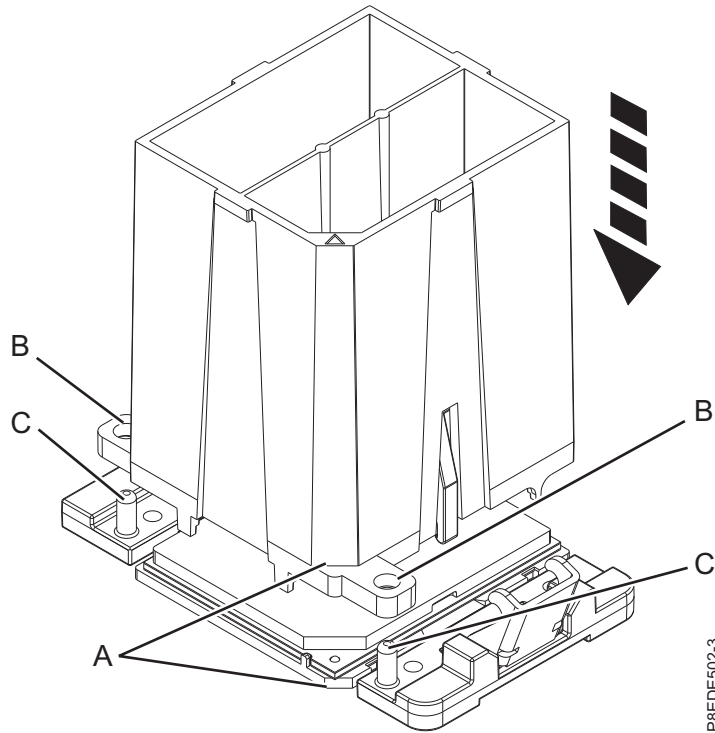

Figure 126. Lowering the removal tool onto the system processor module
- a. Using the supplied removal tool, align the beveled corner (**A**) of the tool over the beveled corner of the system processor module as shown in Figure 126 on page 128.